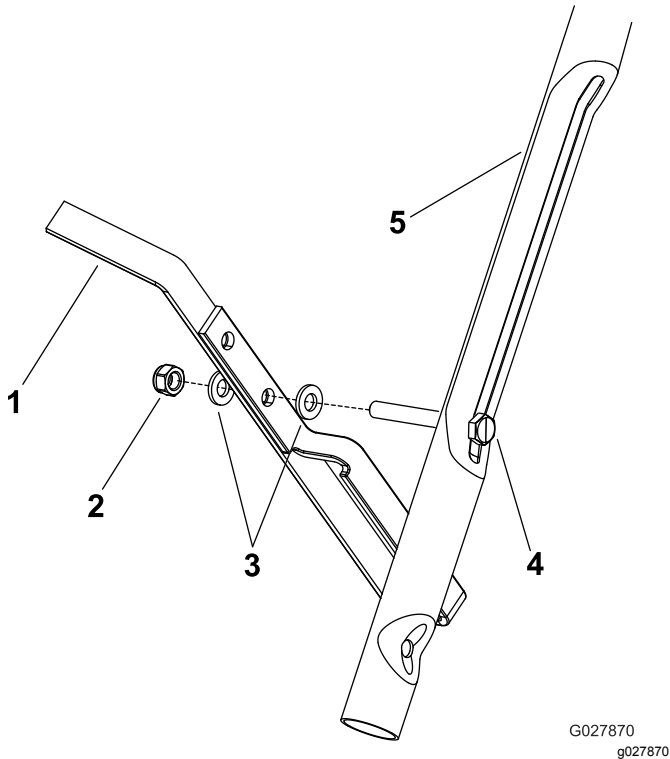

Figure 6
Secure the footstop to the bolt on the right side of the lower handle using a nut and 2 washers (Figure 6).
**Note:** Install the footstop using the lower hole in the footstop as shown in Figure 6.